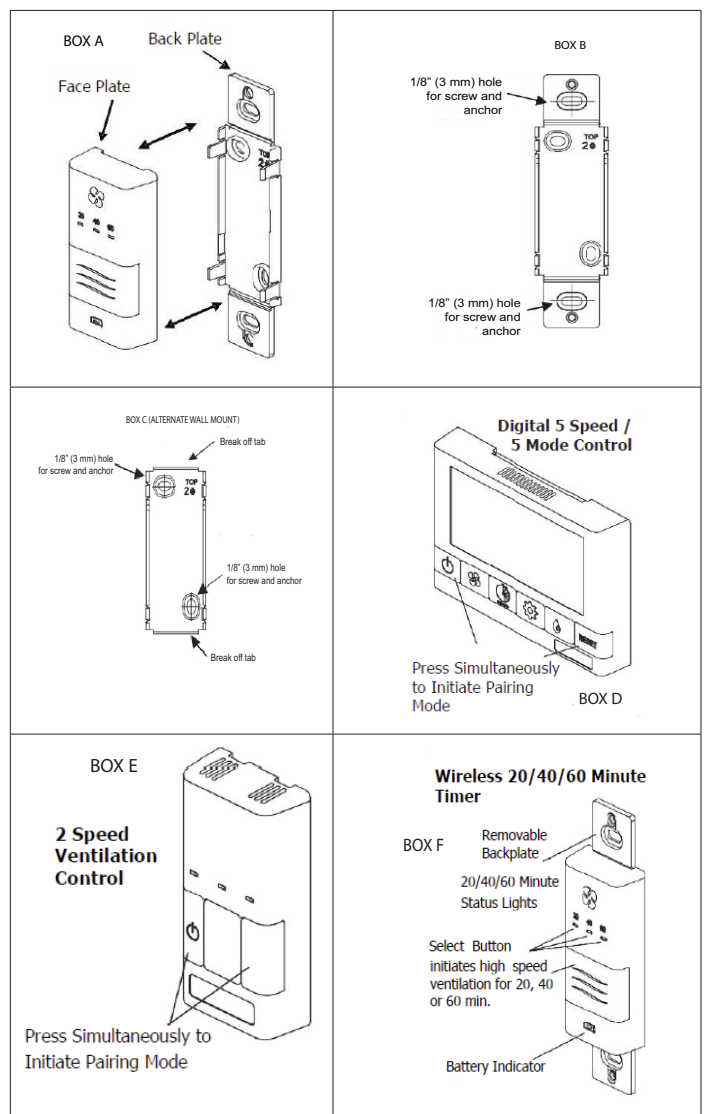

Figure 35. Wireless Timer Installation
2. Pairing **Wireless 20/40/60 Minute Timer with Digital 5-Speed / 5-Mode Control:** Press the left and right buttons simultaneously on the main wall control  and RESET buttons). The screen will go blank and the wireless symbol  appear flashing on the bottom right of the display. This indicates that the main control is now in pairing mode (Figure 35, Box D).
3. Pairing **Wireless 20/40/60 Minute Timer with Wall Mount Dehumidistat/Ventilation Control:** Press the left and right buttons simultaneously on the main wall control  and either  or  buttons, depending on the main control). The bottom row of three LEDs will begin flashing. This indicates that the main control is now in pairing mode (Figure 35, Box E).
1. Separate the face plate from the back plate by firmly pulling apart (Figure 35, Box A).
2. For mounting the control without a decorative plate, break off top and bottom tabs and refer to Figure 35, Box C for mounting.
- Place the back plate of the control in the desired location on the wall and pencil mark the top and bottom screw holes (Figure 35, Boxes B or C). Drill two 1/8" (3 mm) holes.
- Attach the back plate to the wall using the two supplied screws and anchors. 5. Attach the face plate to the back plate (Figure 35, Box A).